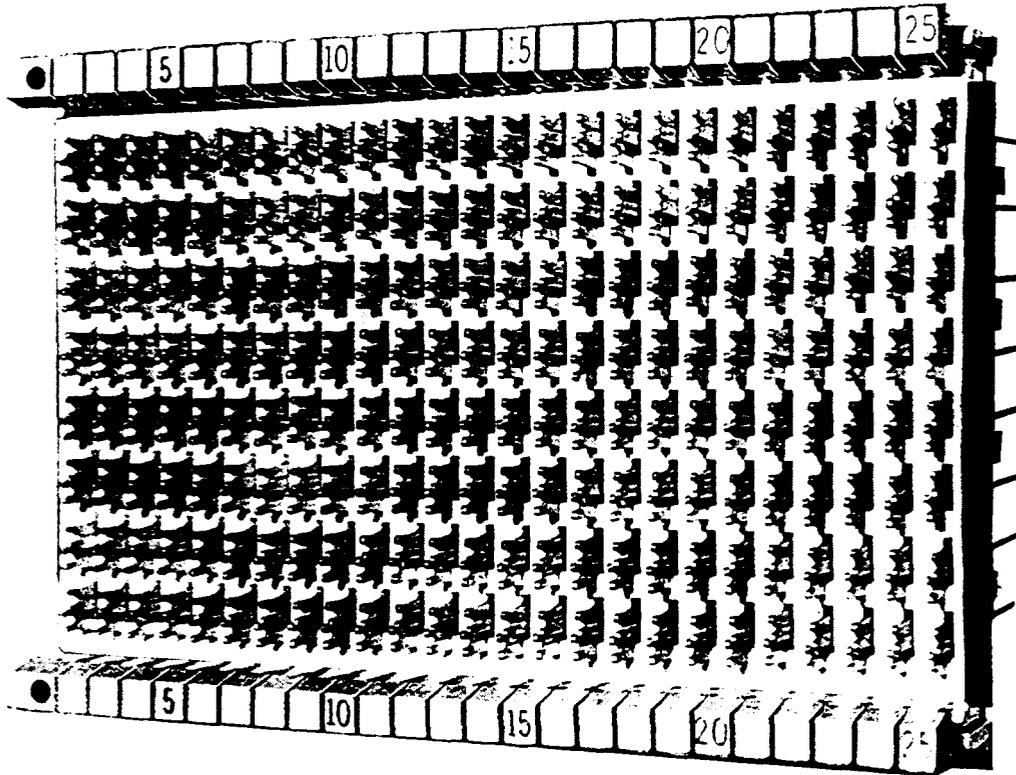

Figure 3—78-Type Connecting Block — 100-Pair Terminal Arrangement
4. 200 twin-clip terminals arranged in four paired rows and 25 columns for 100-pair terminations used with loop cable, electromechanical switching equipment, and tie pair requirements (Figure 3).